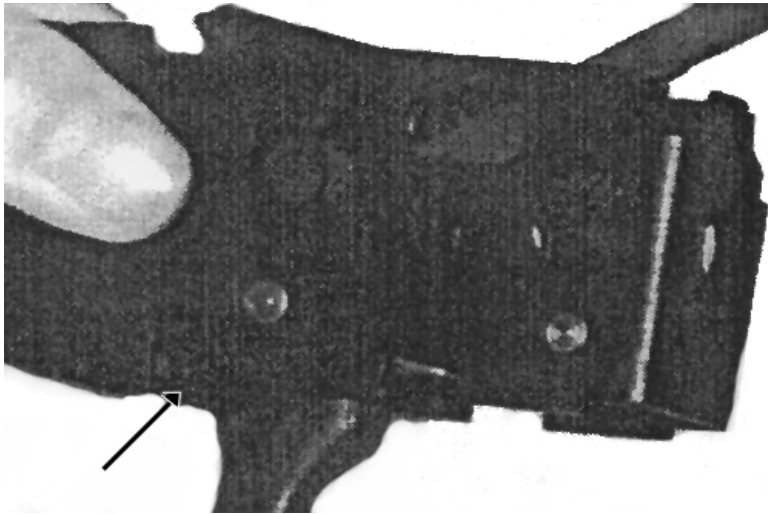
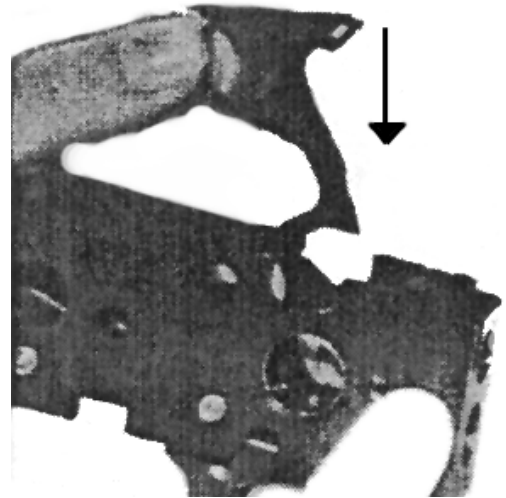
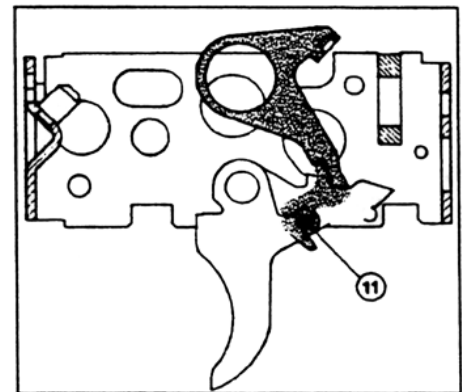

Figure 53
Figure 52
Figure 54
- Position *shifter rod* with hooked end down. Slide *rod* down on right side of housing (Fig. 52) placing hook under *sear release latch axle* (Fig. 53) and allow *shifter rod* to fall into housing. (Fig. 54)